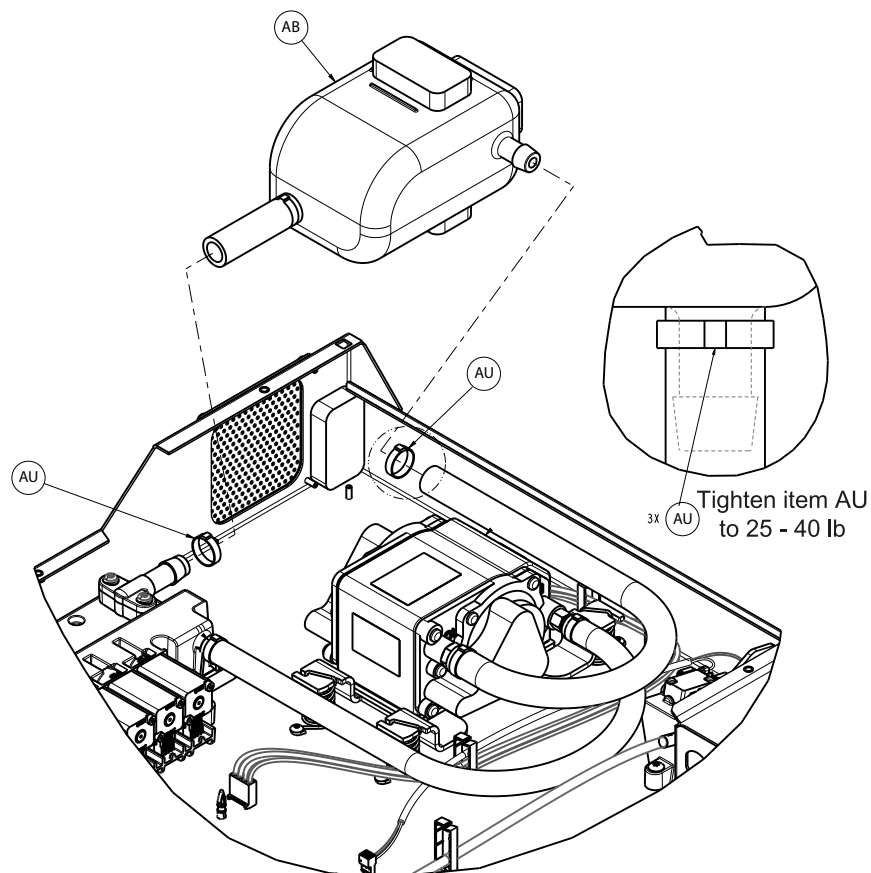

Figure 24 – Resonator
2. Using diagonal pliers, cut the cable ties (AU) from the inlet and outlet hoses of the resonator (AB) (Figure 24). Discard the cable ties.